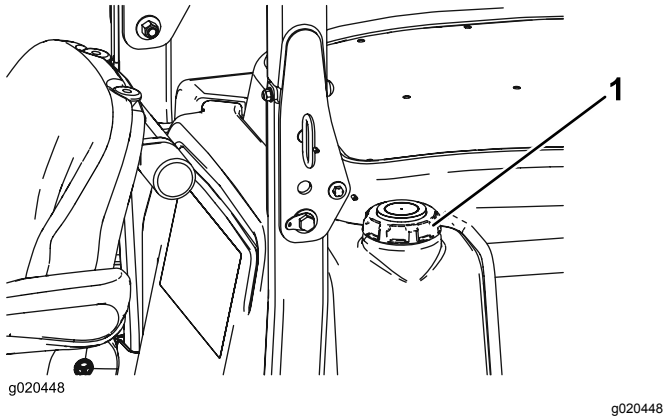

Figure 13
3. Remove cap from the fuel tank (Figure 13).